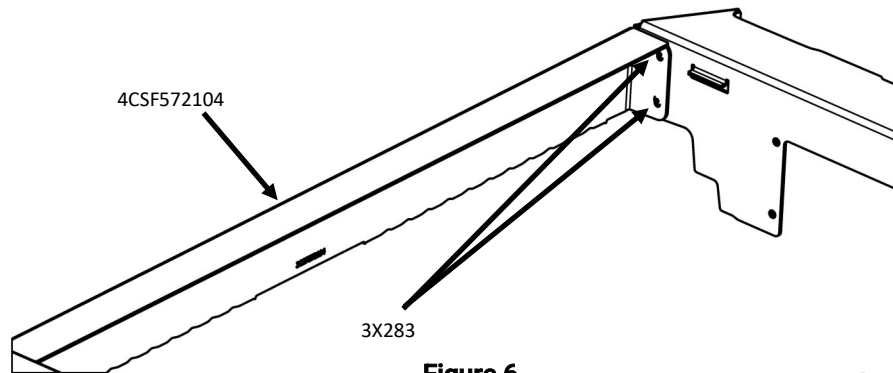

Figure 6
1. locate Rear Panel Assy [4CSF572104] and (4) [3X258] 1/4"-20x1/2" button head cap screws.
2. Mount Rear Panel Weldment to Drive Side Panel with (2) Button Head Cap Screws (Figure 6). Repeat for Passenger Side Panel.